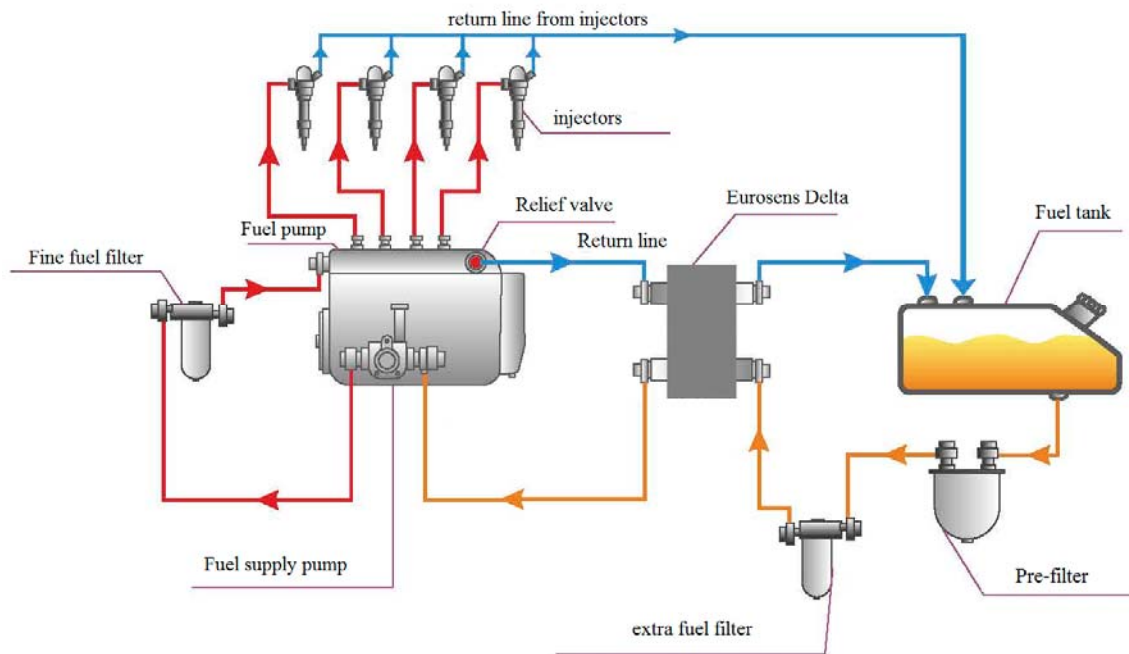

Figure 8. Eurosens Delta installation with supply chamber "on suction side"
2) Supply chamber is installed in the fuel line before supply pump (on suction side). In this case, the installation of an additional fine filter is necessary (see. Figure 8).